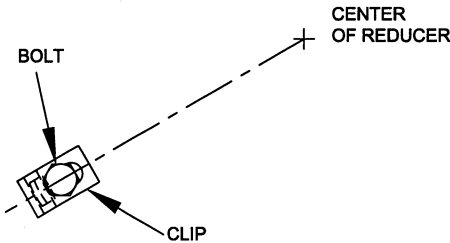

Figure 6.7.1b Location of Shroud Clips
- Align shroud clip with center of reducer (reference Figure 6.7.1b) and tighten bolts to torque requirements of Table 2, page 17 .